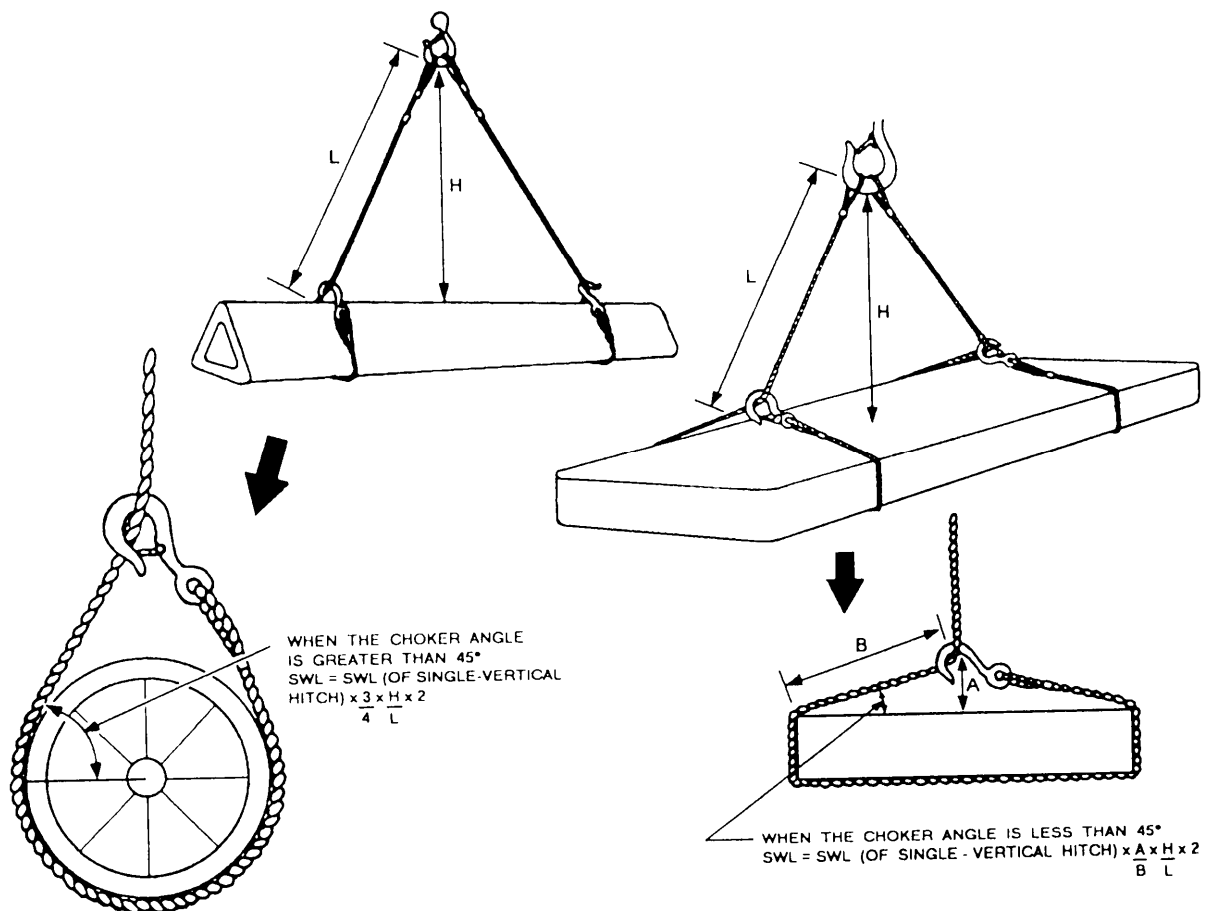

Figure 13-40.—Determination of double-choker hitch sling capacity.
**Double-choker hitch** (fig. 13-40): For sling angle of 45 degrees or more, SWL = SWL (of single-vertical hitch)  $\times 3$  divided by 4  $\times H$  divided by  $L \times 2$ .